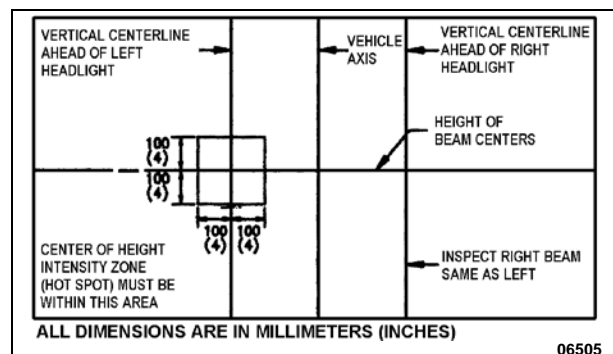

FIGURE 50: AIM INSPECTION LIMITS FOR UPPER-BEAM HEADLIGHTS
- The inspection limits for high-beam headlights shall be with the center of the high-intensity zone from 10 cm (4 in) up to 10 cm (4 in) down; and, from 10 cm (4 in) left to 10 cm (4 in) right on a screen at 7.6 m (25 ft) (Figure 50).